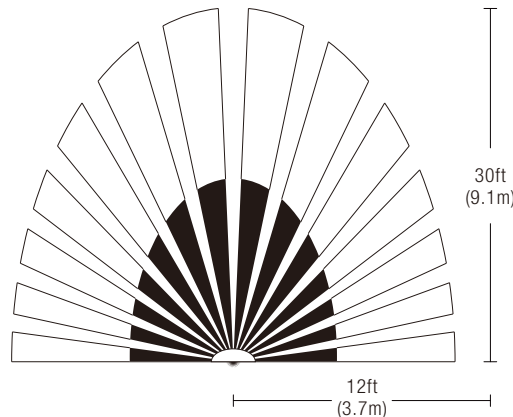

Figure 1: Sensor coverage area (top view)
- The coverage area data is measured under the best temperature condition (20 to 25° C), and a higher or lower temperature may not lead to an ideal coverage area (see figures 1 and 2).